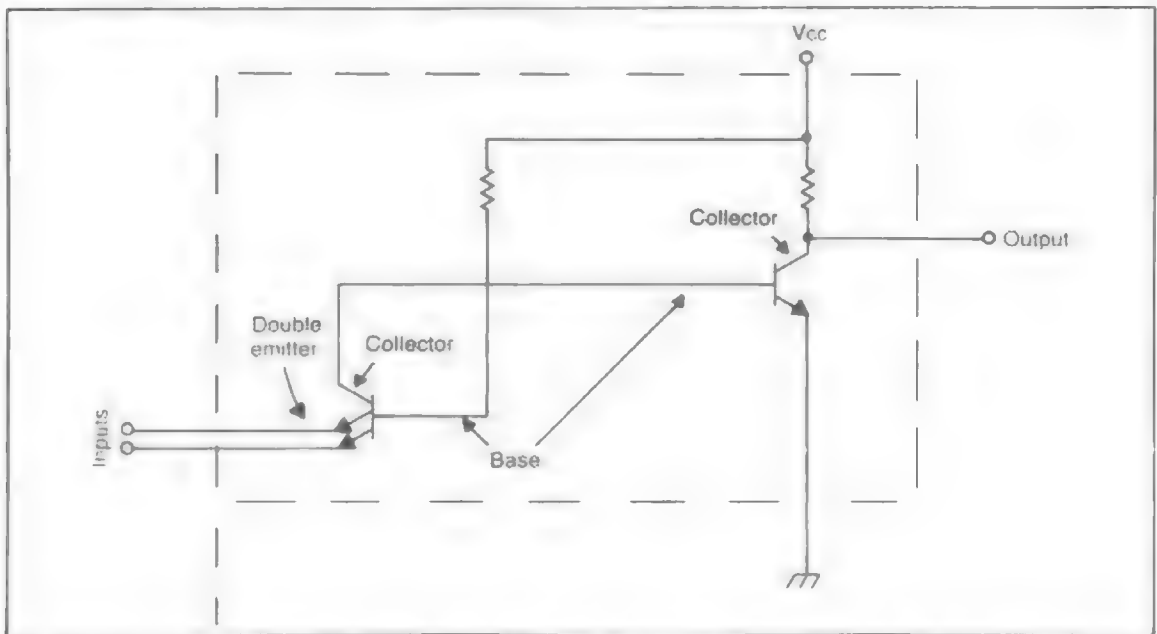

Fig 4-1 The TTL (Transistor-Transistor-Logic) chips are based around special transistors with double emitters.
74. These are usually TTL chips. TTL stands for Transistor-Transistor-Logic. The TTL name is given because, as shown in Fig. 4-1, the input transistor on such a chip is a bipolar type but is endowed with double emitters.